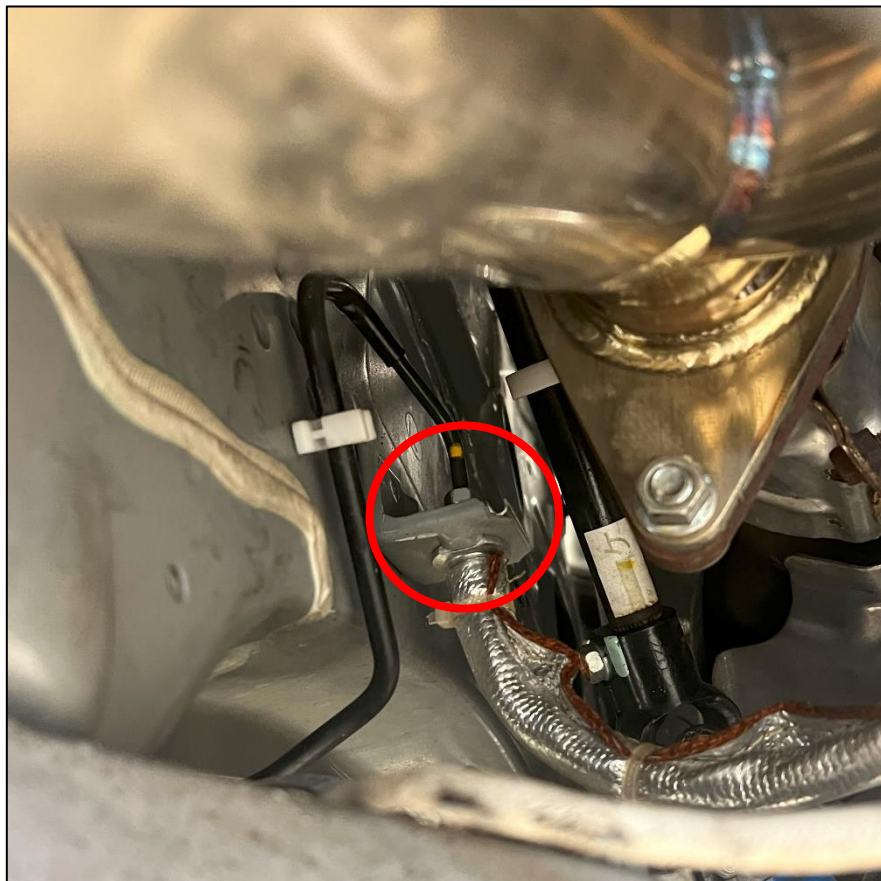

Figure 18
40. Remove OEM Clutch Line from Clutch Hard Line. It is located near the Driver Side Exhaust. *Figure 18* below. This is best done before the transmission is installed to give you more room to work.